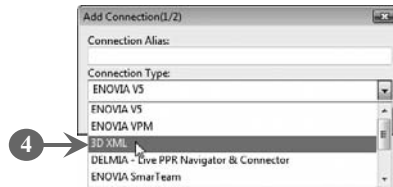

FIGURE 1.21
The **Add Connection(1/2)** dialog box opens (Figure 1.21).
4. Select a connection type from the **Connection Type** drop-down list. In our case, we have selected **3D XML** as the connection type, as shown in Figure 1.21: